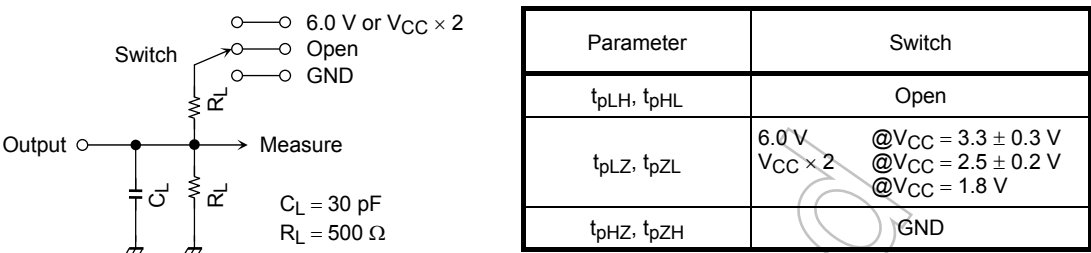

Figure 1
| Maximum clock frequency | f_{\max} | Figure 1, Figure 2 | 1.8 | 125 | — | MHz |
| Propagation delay time (CK-Q) | t_{pLH} t_{pHL} | Figure 1, Figure 2 | 1.8 | 1.5 | 6.0 | ns |
| 3-state output enable time | t_{pZL} t_{pZH} | Figure 1, Figure 3 | 1.8 | 1.5 | 7.0 | ns |
| 3-state output disable time | t_{pLZ} t_{pHZ} | Figure 1, Figure 3 | 1.8 | 1.5 | 5.0 | ns |
| Minimum pulse width (CK) | t_w (H) t_w (L) | Figure 1, Figure 2 | 1.8 | 3.0 | — | ns |
| Minimum setup time | t_s | Figure 1, Figure 2 | 1.8 | 2.5 | — | ns |
| Minimum hold time | t_h | Figure 1, Figure 2 | 1.8 | 1.0 | — | ns |